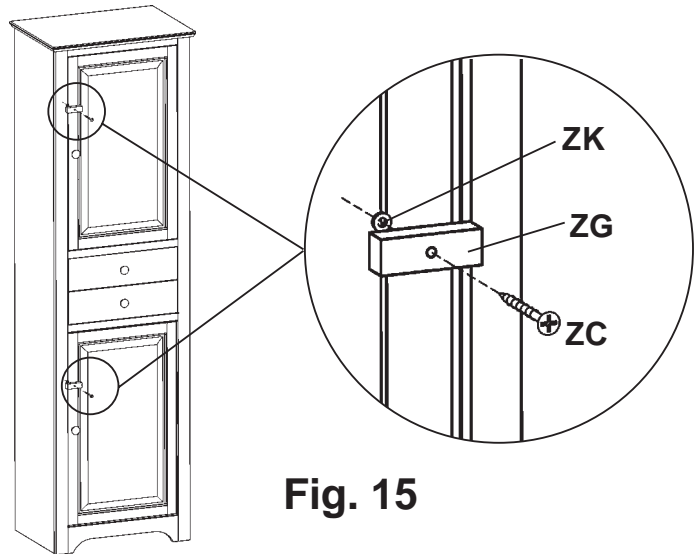

Fig. 15
15. Find the center between the top of the Face Frame and the Wooden Knobs on the Doors. Attach the Turn Latch (ZG) to the Face Frame making sure that you center it side to side. Insert a #6 x 1-1/4" Antique Brass Pan Head Screw (ZC) through the Turn Latch and a #8 Washer (ZK) into the Face Frame. See Figure 15.